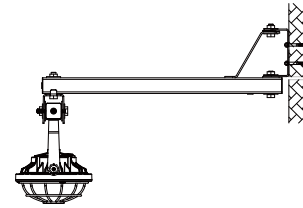

Figure 3
4. Tighten the nut of the screws (Figure 3).